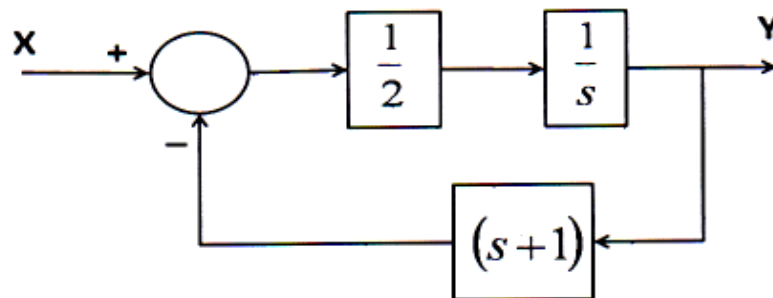

Figure 1
- b) From the block diagram in Figure 1, determine the transfer function: Y/X. [4]